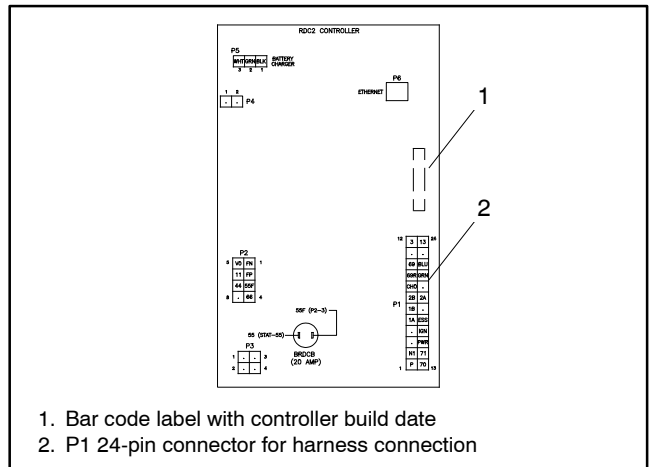
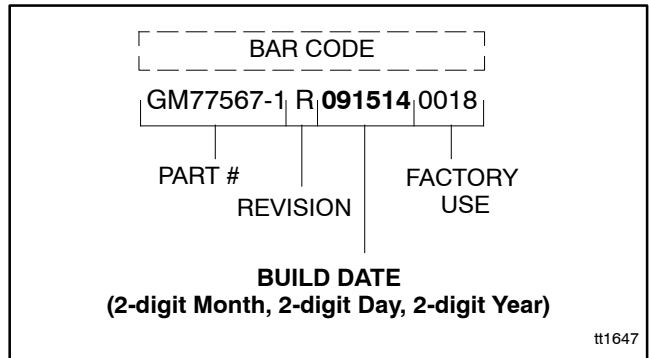

Figure 18 Back of Controller
Figure 19 Controller Bar Code Label
- If the new controller has a green board with a bar code date BEFORE 9/15/14, keep the diode harness and connect it to the replacement controller. See Figure 18 and Figure 19 to find and interpret the bar code label.